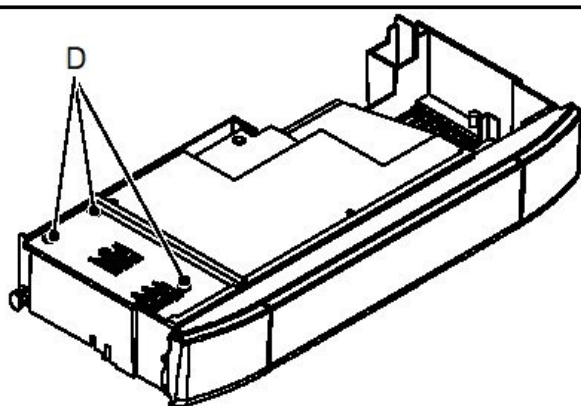

Fig. 6.50
4. Loosen the screws D and remove the service panel (Fig. 6.50).